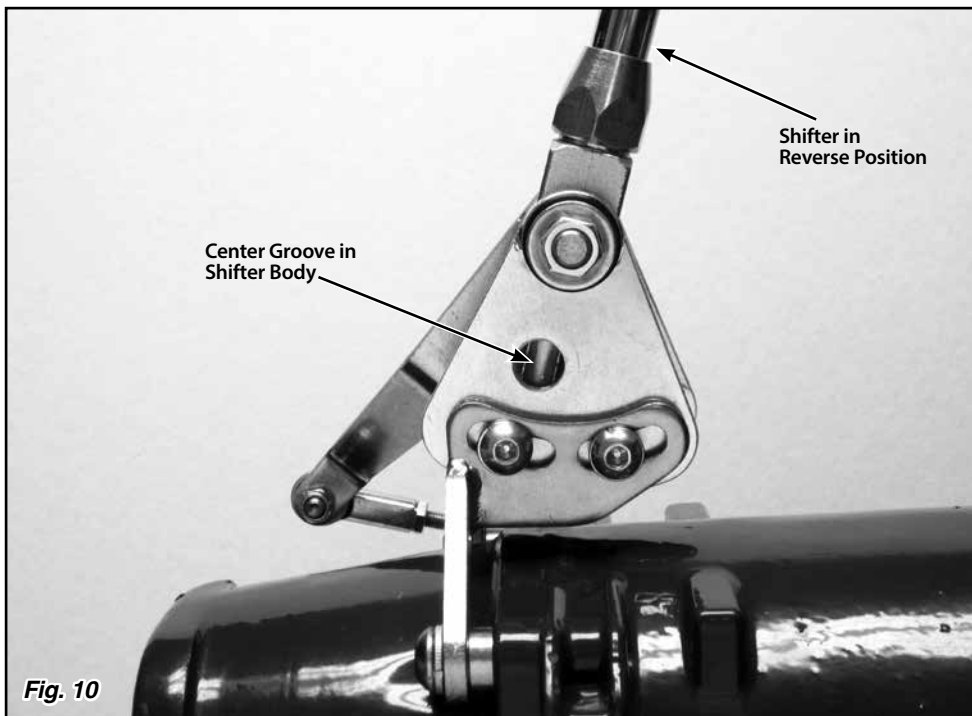

Fig. 10
Step 16: Put the Shifter into the Reverse position. Reposition the switch plate so that the hole in the switch plate lines up with the center groove in the shifter body. **Fig. 10** Screw the provided aluminum adjuster plug into the neutral safety switch opening. Wiggling the switch plate slightly forward and back while you are screwing the aluminum adjuster plug in will help get the shifter body centered on the adjuster plug. **Fig. 11**